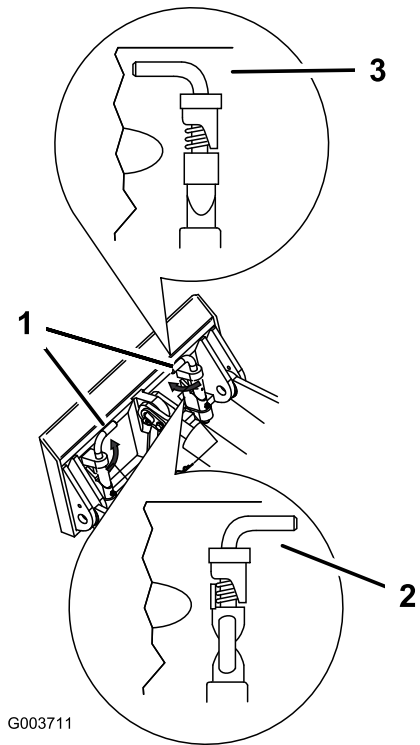

Figure 25
7. Engage the quick-attach pins, ensuring that they are fully seated in the mount plate (Figure 25).